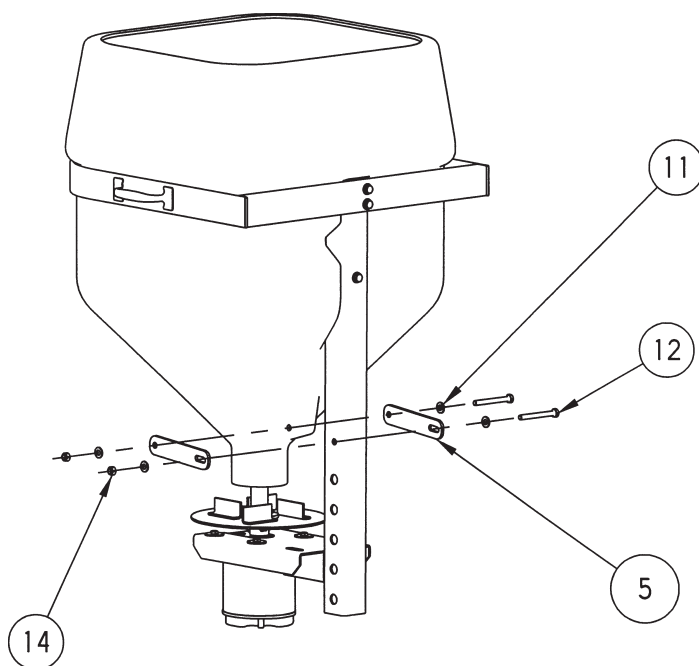

Fig. 4
See Fig. 4
Install bottom support straps (5) by sliding 5/16-18 x 3 HH cap screws through the support straps, frame and hopper *as shown in Fig. 4*. **CAUTION:** do not over tighten the screw that goes through the hopper; you may damage the hopper. At this time the motor should be aligned so that the auger does not rub any part of the hopper outlet. Move the motor around with the screws loose and turn the auger BY HAND to check for rubbing. When the motor is in the correct position tighten the motor screws and recheck one more time for rubbing.